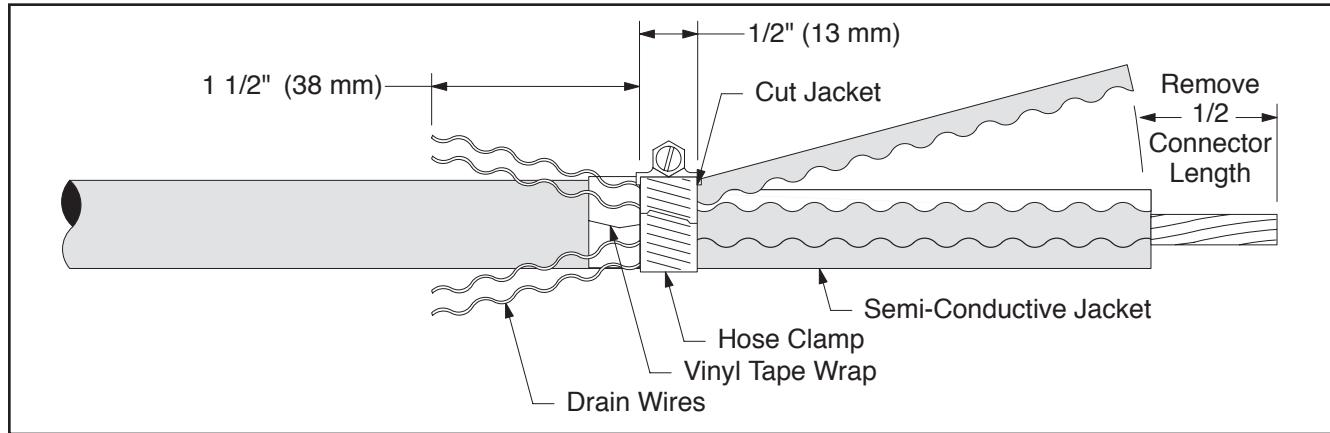

Figure 4
- c. Cut off shield drain wires to a length of 1 1/2" (38 mm) and fold back onto cable (*Figure 4*).
- d. Install hose clamp as shown in (*Figure 4*). On the side of the clamp closest to the cable end cur 80% through cable jacket.
- e. Remove jacket by pulling against hose clamp. **Do not bell semi-con jacket** (*Figure 4*).
- g. Remove cable insulation from cable ends for a distance of 1/2 connector length (*Figure 4*).